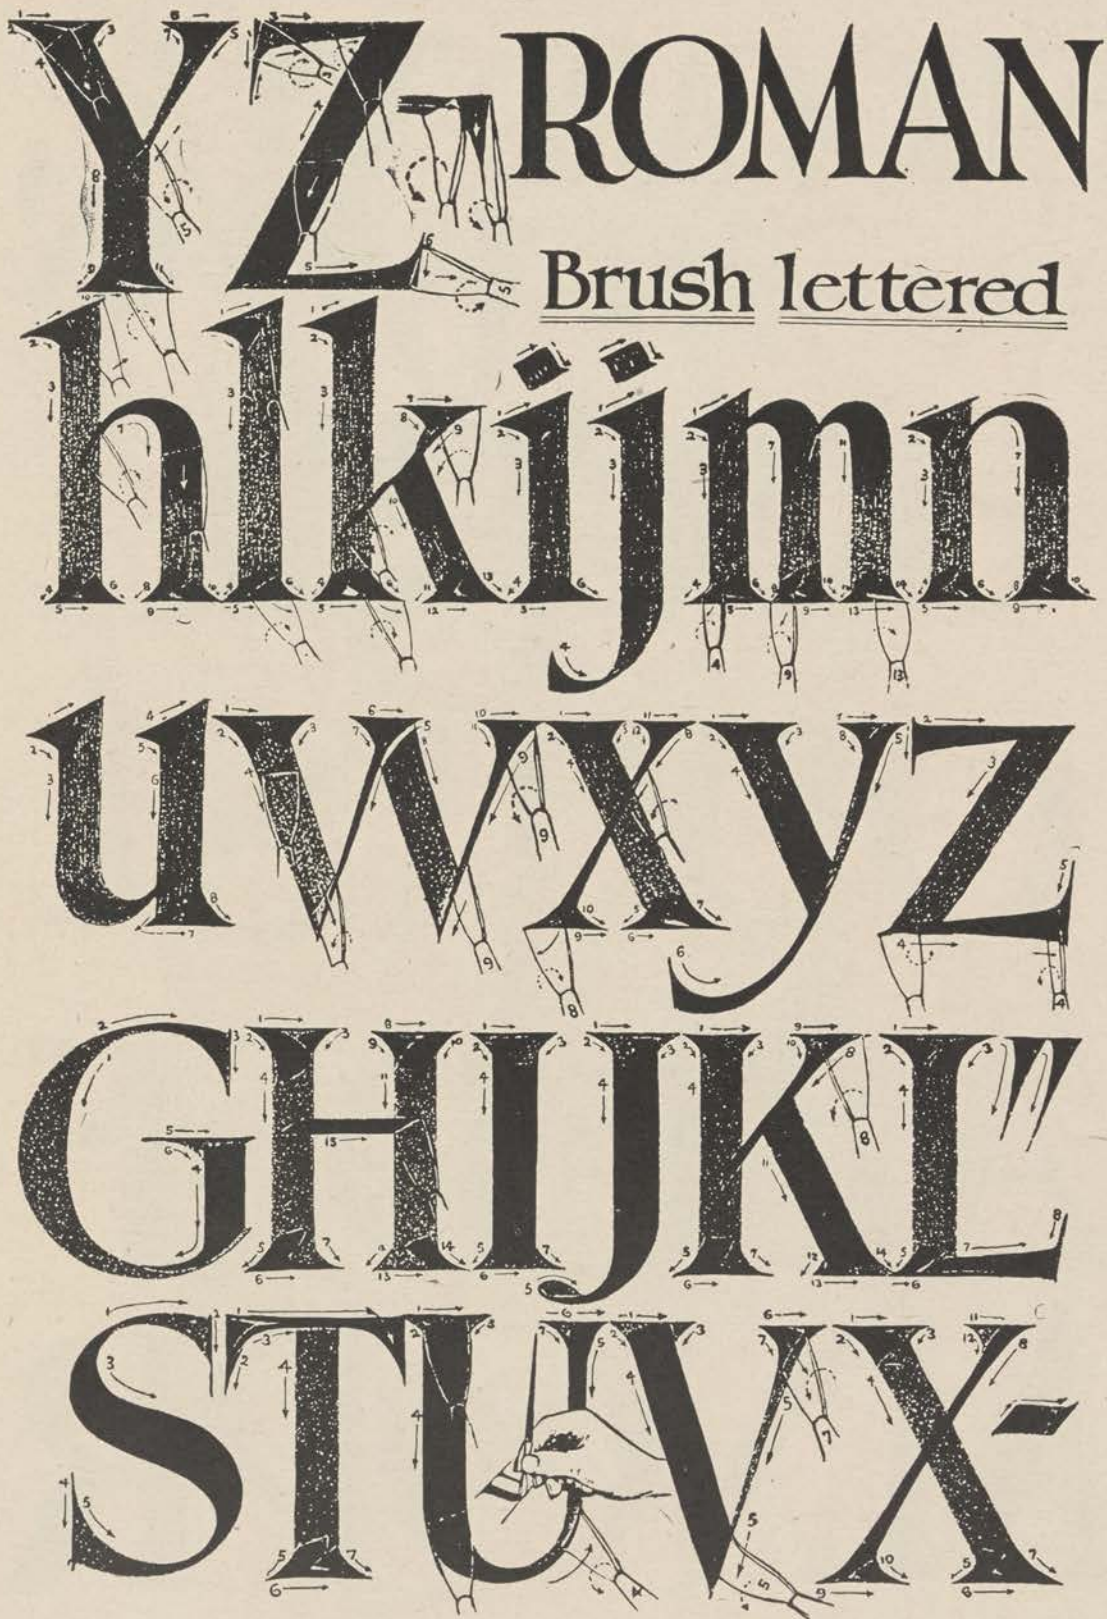

Figure 195.
b. The single-stroke roman illustrated can be done with a pen, but for instructional purposes brush lettering is indicated (figs. 195 and 196). Note that the square-tipped brush is manipulated at different angles to produce strokes of varying width. Generally, each letter is started at the top, and the brush is drawn toward you by the action of the fingers alone. The correct motion requires practice and skill, but is well worth mastering. An alternate method of producing heavy letters is to outline them lightly in pencil, then ink them in with either pen or brush.